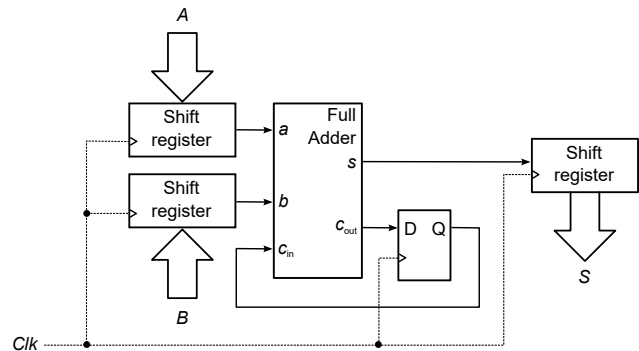

Figure 2: Overview of the serial adder circuit.
A serial adder consists of three n -bit shift registers, a full-adder and a D flip-flop. Two parallel-in-serial-out (PISO) shift registers holds the numbers (A and B) to be added, while a serial-in-parallel-out (SISO) register holds the sum (S). The full-adder performs the addition operation on the values stored in the input shift registers and the carry flip-flop in n clock cycles. A “first-cut” block diagram of a serial adder is shown in Figure 2.